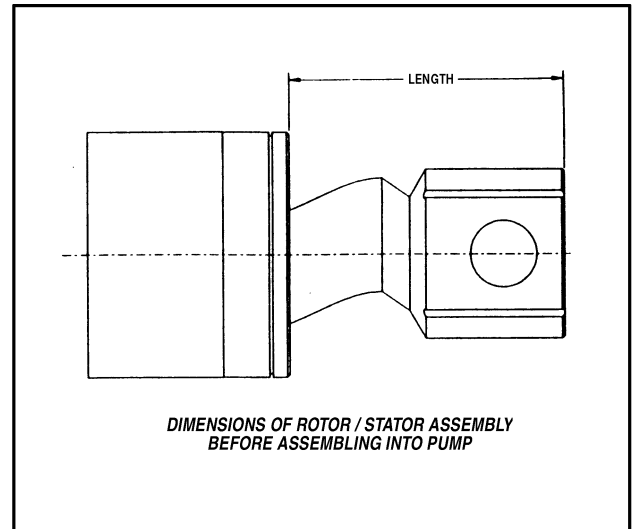

Figure 4-2. Rotor Installation
16. Insert stator (19) into a sturdy vise with a rag wrapped around the stator to protect the finish. Close the vice and secure the stator. *Make sure the stator is adequately supported for the task.*
17. Lubricate the rotor (15) with food grade grease, vegetable oil, or other food grade lubricant that is compatible with the stator elastomer.
19. Position the rotor in the stator, per Figure 4-2., so the head of the rotor sticks out of the stator not less than the **length** listed below: